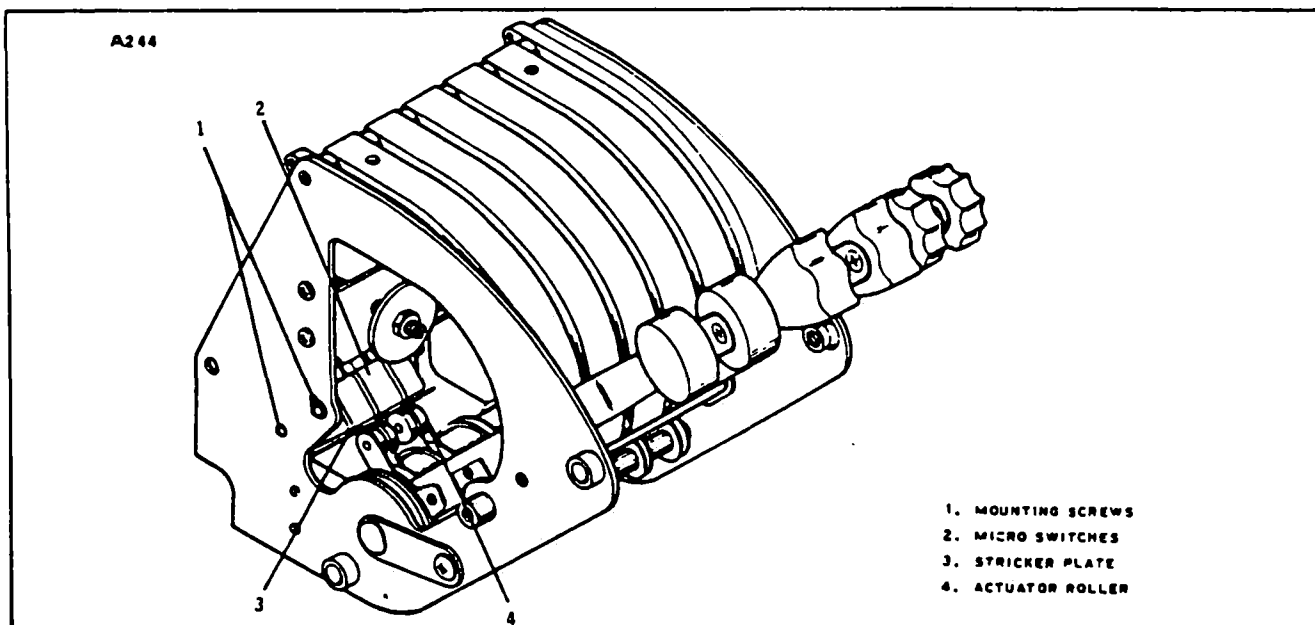

Figure 7-18. Landing Gear Warning Switch Installation
- e. With the battery master switch ON, loosen the mounting screws (1) (Refer to Figure 7-18) on the micro switch mounting bracket and move the switches up or down until the gear warning horn starts to operate.